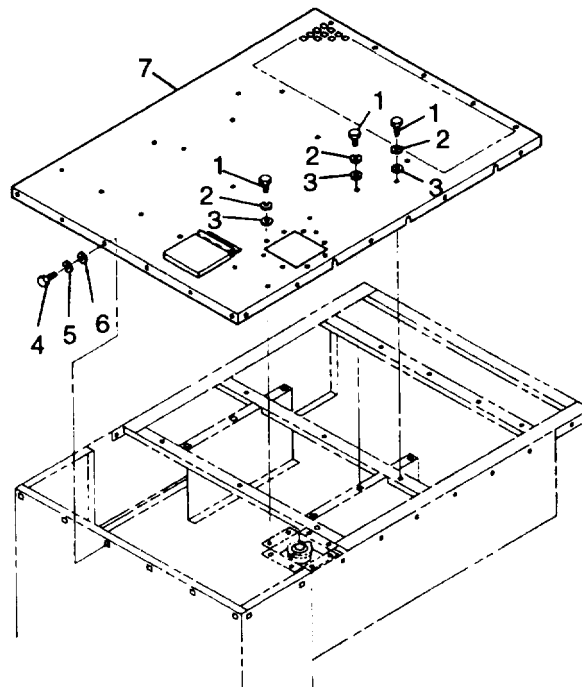

FIGURE 3-2. Generator Set Top Housing Panel
- f. Remove bolts (1 and 4, FIGURE 3-2), lockwashers (2) and (5), washers (3) and (6), and top housing panel (7) from generator set.